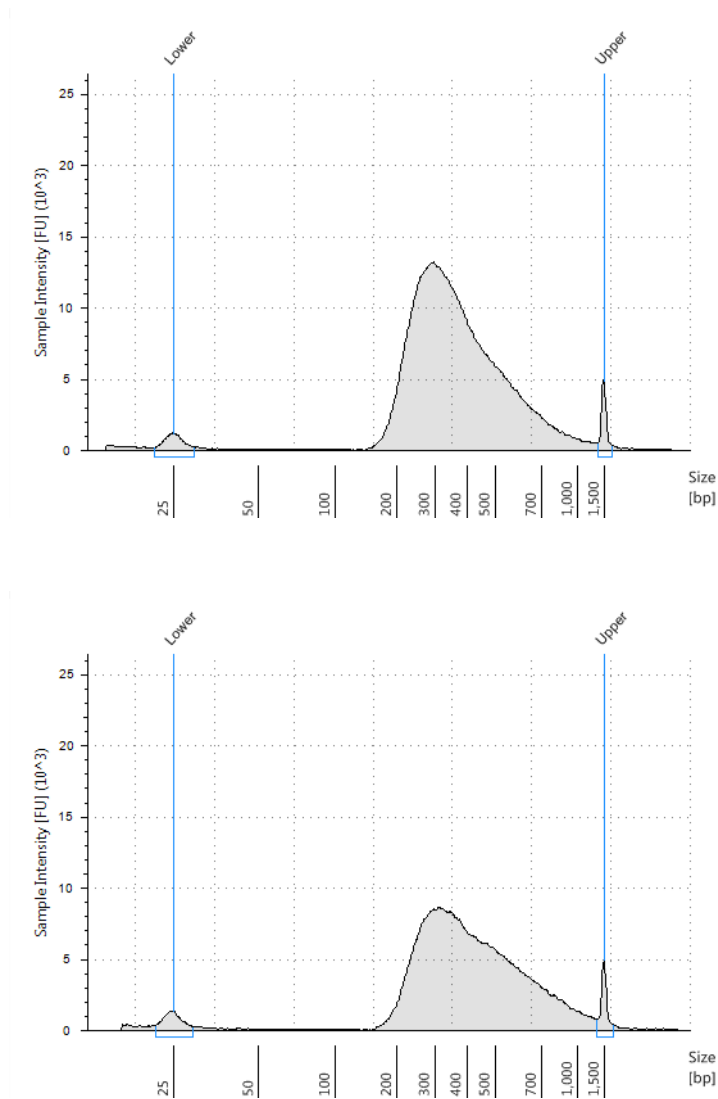

Figure 6 Representative sample electropherograms showing pre-capture analysis of amplified library DNA using the 2200 TapeStation with a D1000 ScreenTape.
- 3 Verify that the electropherogram shows the peak of DNA fragment size positioned between 245 to 325 bp. Sample electropherograms are shown in Figure 6. Variability of fragmentation profiles may be observed.